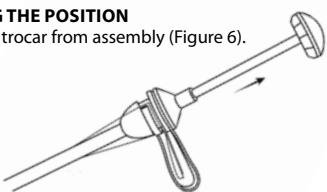

Figure 6
1. Remove trocar from assembly (Figure 6).